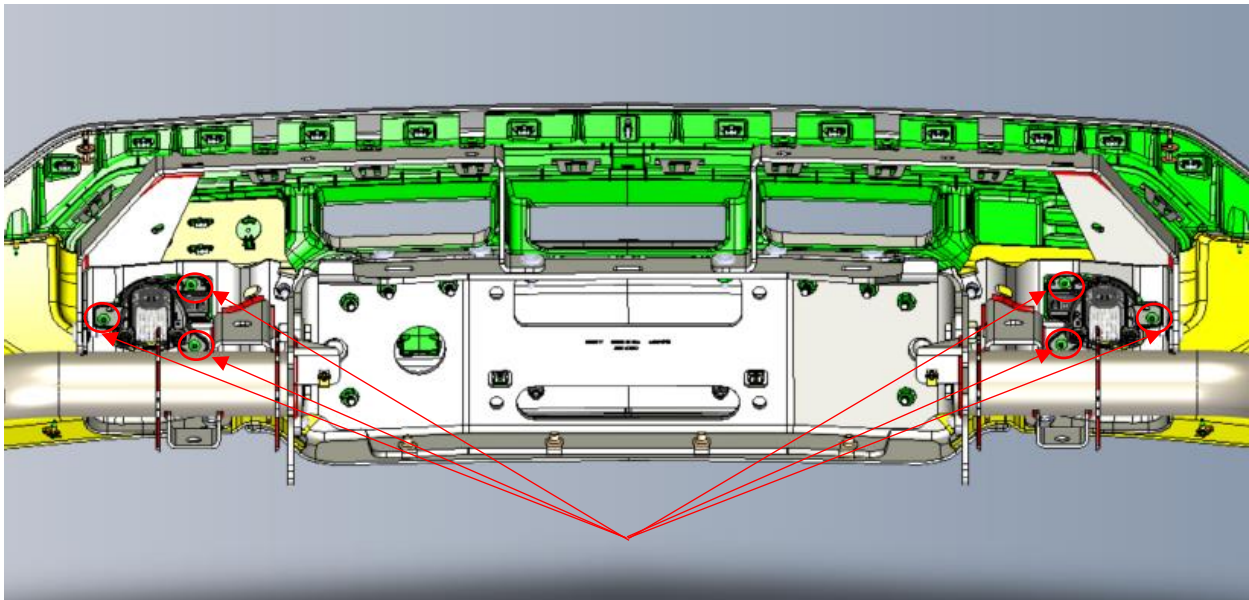

Figure 10 – Backside of AEV GMC Front Bumper
- b. Using same 6 bolts, re-install factory fog lamps in AEV front bumper – Fig. 10